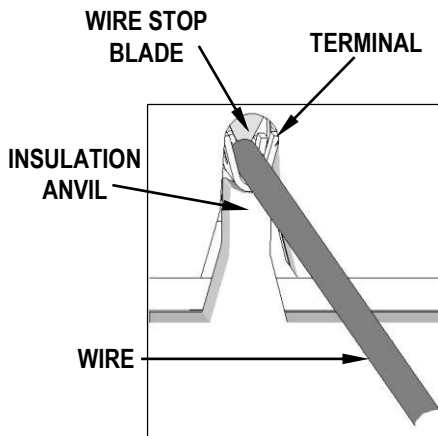
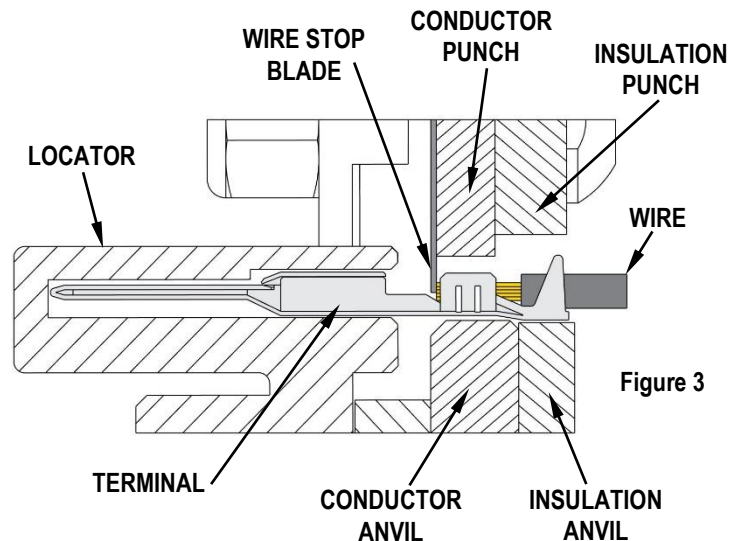

Figure 2
Figure 3
5. Slide the pre-stripped wire into the terminal. Make sure to aim the wire brush toward the tip point on the wire stop blade. See Figure 2. Align the wire so that it is parallel and sitting into the terminal. Maintain a light and constant pressure on the wire that is seated in the terminal at all times. (Do not let go of the wire.) Be sure to hold the wire in place until the terminal is fully crimped. See Figure 3.